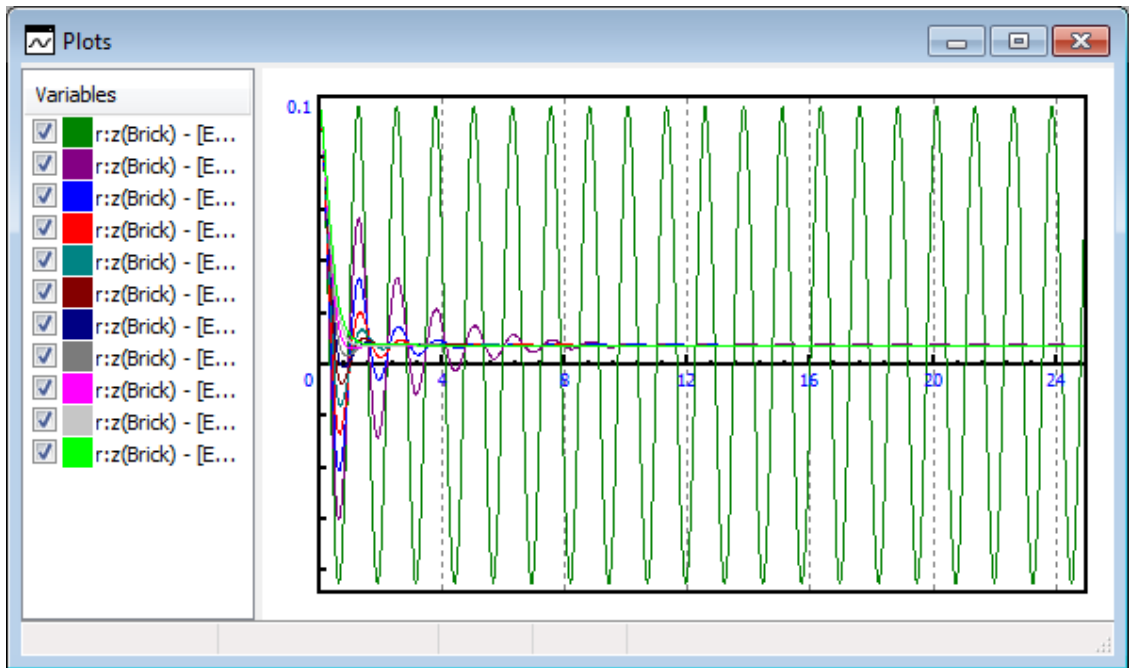

Figure 2.17. Vertical oscillation of the brick at various damping coefficient
- In the list of variables (the **Position** tab) select the **r:z(Brick)** variables and drag it to the graphical window. Plots of vertical position of the **Brick** are shown in the graphical window, see Figure 2.17.